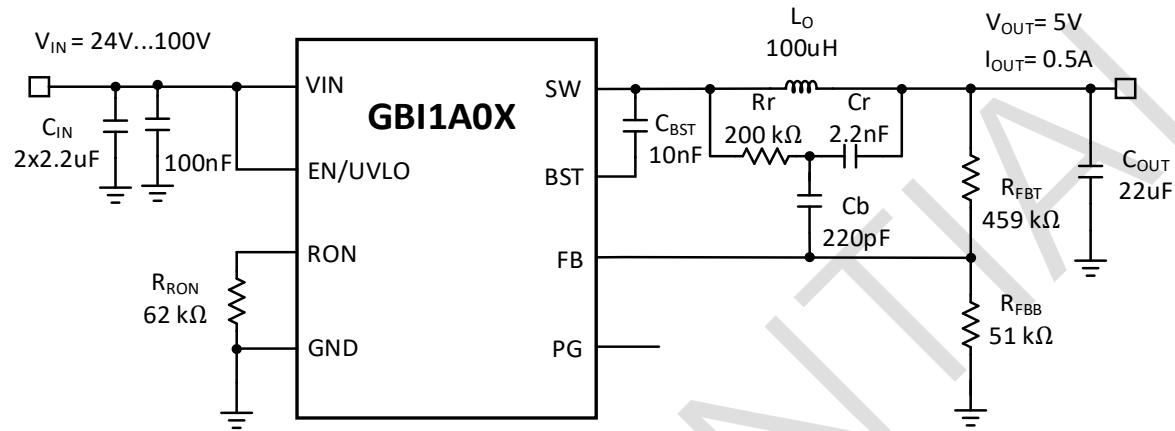
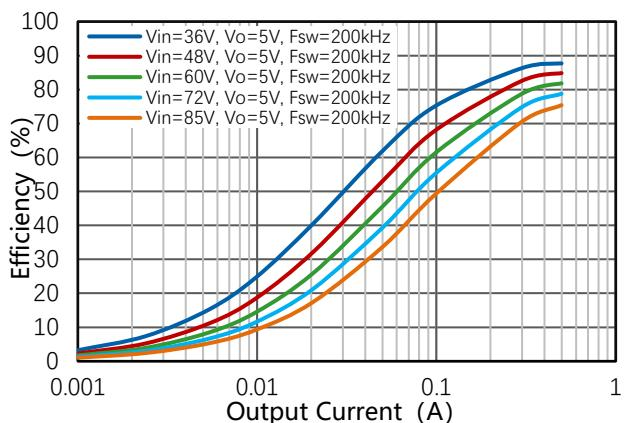
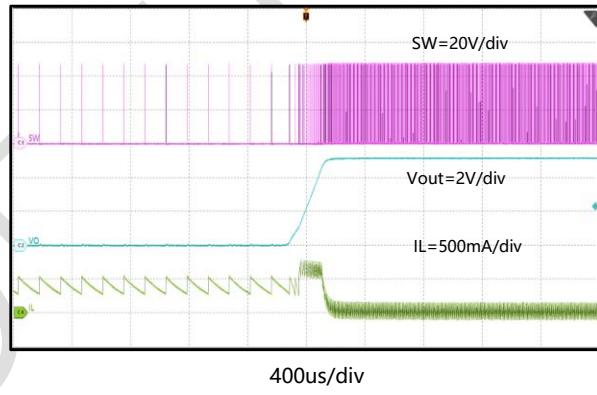

Figure 10-1. 48V Normal Input, 12V/0.5A Output
Figure 10-2. Power Efficiency
Figure 10-17. Hard-short Recover
The GBI1A00 and GBI1A01 output voltage can be easily set up using a resistor divider network R1 and R2 as shown in the typical application circuit Figure10-1. Use Equation (14) to calculate resistor divider values.
Figure 10-2 to Figure 10-17 are tested based on Figure 10-1 with GBI1A00.